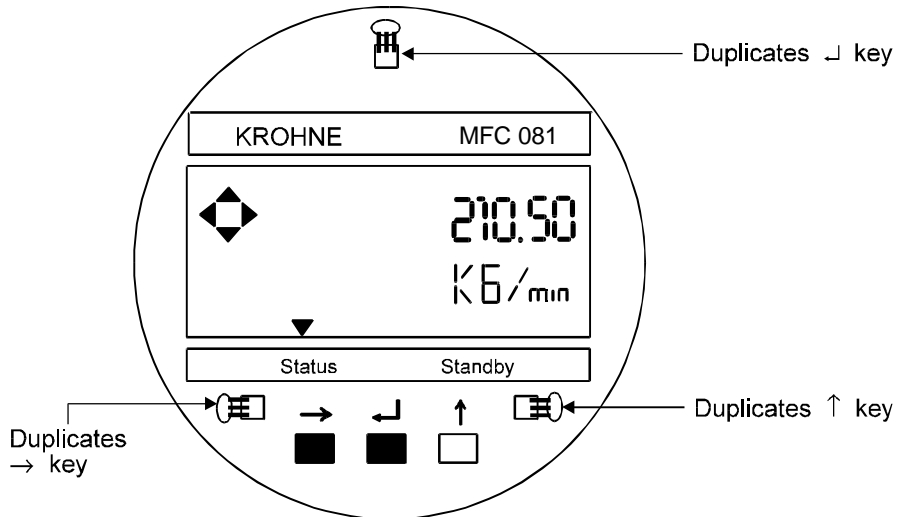

Fig. 25: Magnetic sensor locations on MFC 081 face plate
- The converter can be programmed by means of the magnetic sensors mounted on the face plate without removing the front lid (see Fig. 25).